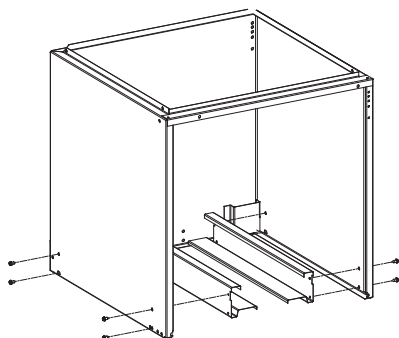
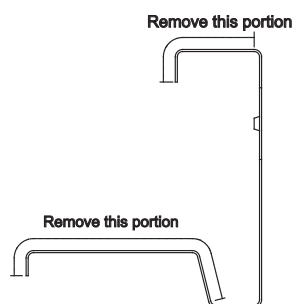

Fig. 3 - Channels Removal
Fig. 4 - Channel Cutting
3. Remove the two internal side channels from existing casing by removing 4 screws each side (see Fig.3, recommended procedure). When screws cannot be reached, cut top and bottom portions of the channels as indicated in Fig. 4.